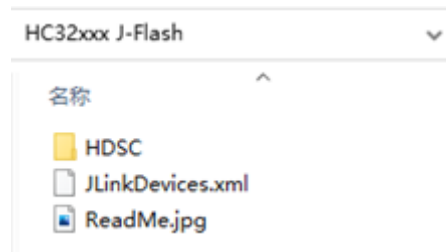

Figure 3-5-2-1 HC32xxx J-Flash Patch file
1. Decompress the "HC32xxx J-Flash.zip" patch package, as shown in Figure 3-5-2-1.